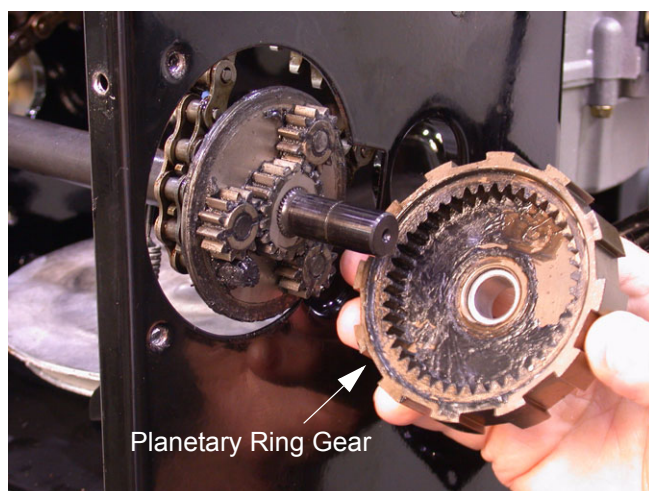

Figure 27
- 11.6. Remove the planetary ring gear. See Figure 27.